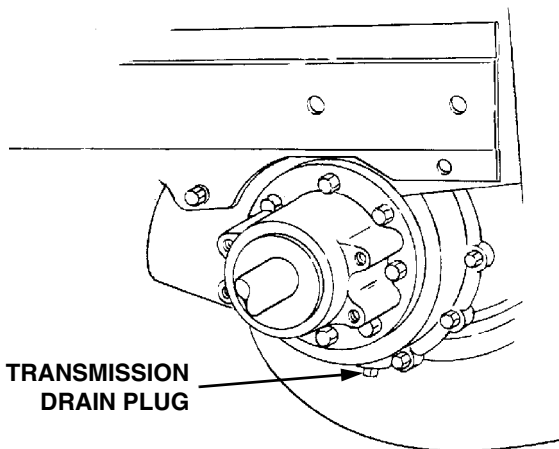

Figure 21
- Clean the area around the transmission drain plug to prevent debris from entering the transmission case. Remove the drain plug and allow the transmission oil to drain into a clean container having a capacity of more than 7 quarts. Reinstall the drain plug (See Figure 21).